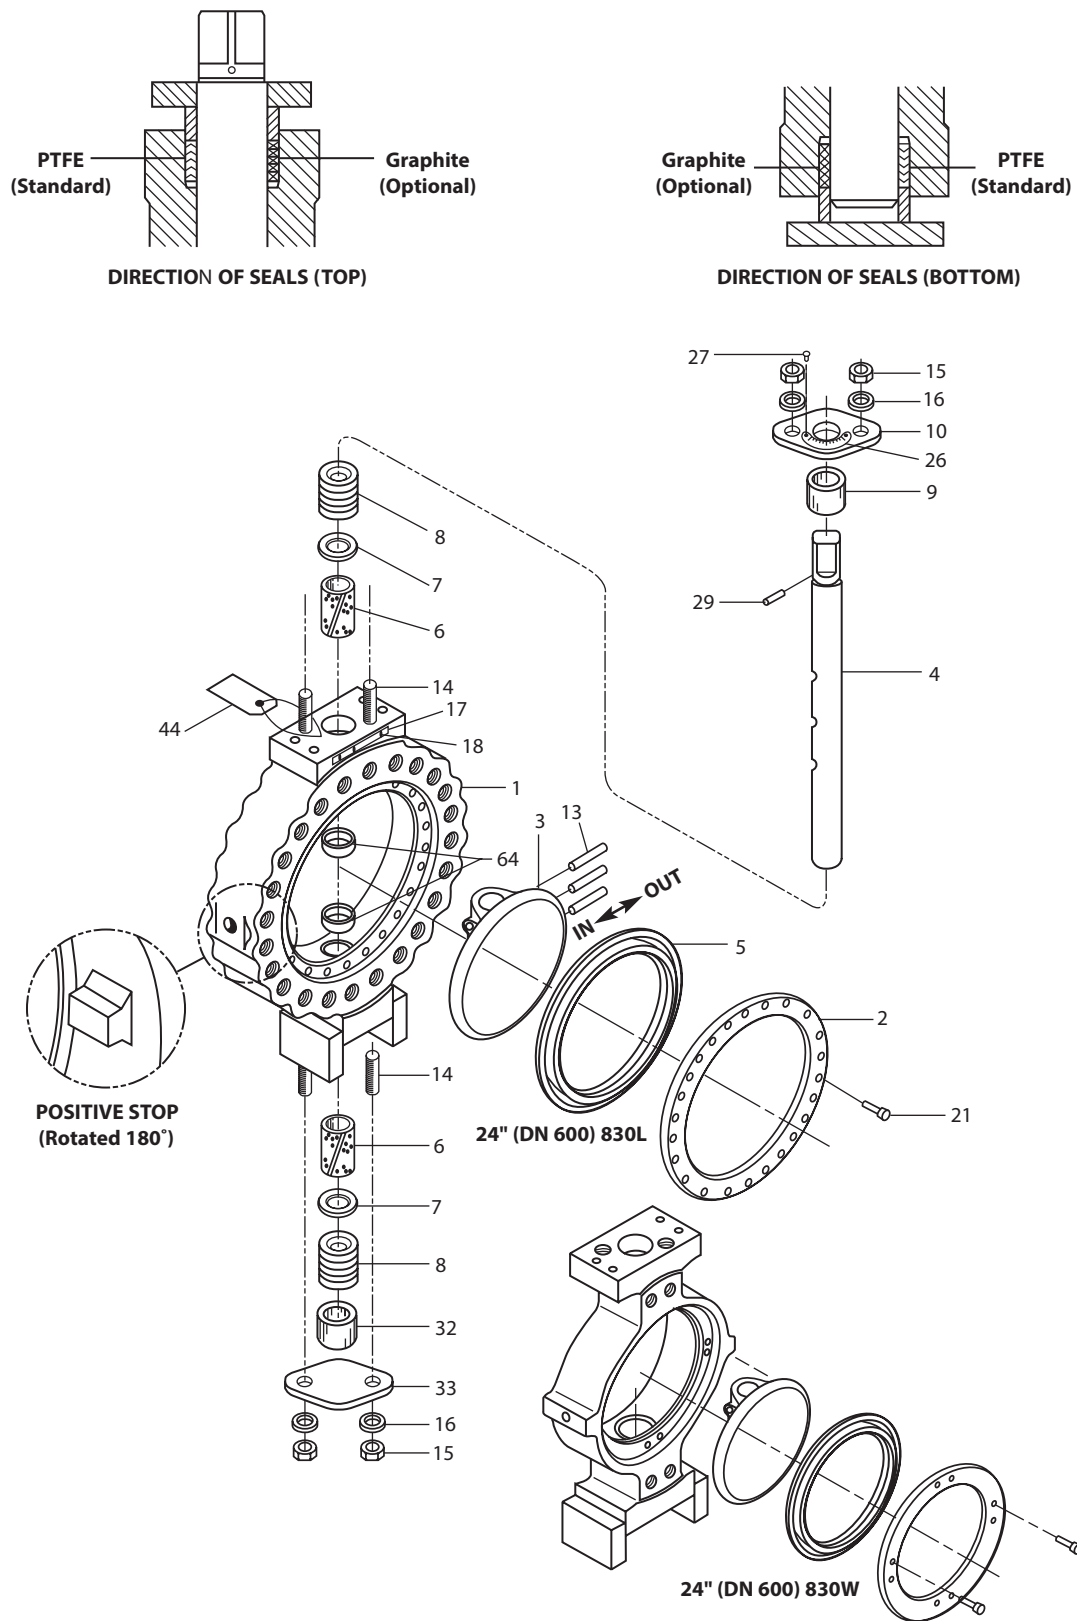

Figure 12
5. Install the bottom bearing bearings (6) into the lower body bores. Install the top shaft bearing (6) into the upper body bore.
7. Position disc (3) in the body between the thrust bearing (64) and slide the shaft (4) through the body and disc. Use caution to prevent damage to the shaft bearings and disc sealing surface. An arrow and the word "bonnet" on the disc indicate correct orientation.
8. Insert the disc pins (13), as shown in **(Figures 12 & 15)**, and drive them into place. The pins must be driven so that both pins are the same depth within 1/16" (1.56 mm). Weld both ends of the pins, small end first, grounding the shaft only (body on blocks of wood). After the disc cools, clean the welds with a wire brush. **CAUTION:** Use care to keep contamination out of the valve.
9. Install the spacer (7) with chamfered side toward disc, the shaft seal (8), and the compression ring (9). If the shaft seal is of the PTFE V-ring type, be certain that it is installed in the orientation shown in **(Figure 12)**.
10. If the studs (14) have been removed from the valve, reinstall them in the holes shown in **(Figure 12)**, using LOCTITE® or other locking compound to prevent vibration loosening.
11. Place the compression plate (10) over the shaft (4) and studs (14). Orient the plate so that the indicator pointer will be over the indicator plate. Install the washers (16) and nuts (15), but do not tighten. Install the indicator pointer.
12. Slide the spacer (7), shaft seals (8) and compression ring (32) onto the shaft at the bottom of the valve.
13. Place compression plate (33) over studs (14). Install washers (16) and nuts (15). Do not tighten.
15. With the valve still closed, tighten the nuts (15) on the compression plates (10 & 33) evenly until the shaft seals are adequately compressed to prevent leakage. This should require tightening the nuts approximately 1-1/2 to 2 full turns after they have both come into contact with the compression plate.
Numbers in () refer to items shown in (**Figure 12**).
- c. From **Figure 12**, the ballooned part number, part name and quantity required